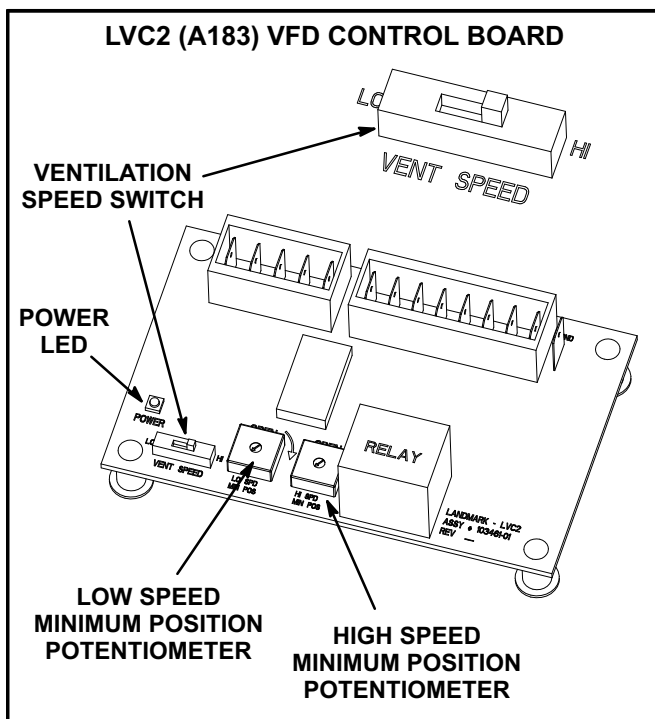

FIGURE 16
To save energy during ventilation, the blower speed can be set to low. This is accomplished by changing the ventilation speed switch on the VFD control board to “LO”. See figure 16.
To maintain required minimum ventilation air volumes when the unit is in the occupied mode, two minimum damper positions must be set. A high and a low speed potentiometer are provided on the VFD control board to adjust minimum damper position. See figure 16.
- 5- Check the power LED on the board. See figure 16.
- 8- When LVC2 24VAC thermostat blower (G) input and 24VDC power are present, check the LVC2 low and high speed outputs. The LVC2 uses inverse logic to enable the blower; 1VDC will be read at the enabled blower speed terminal. See table 9.